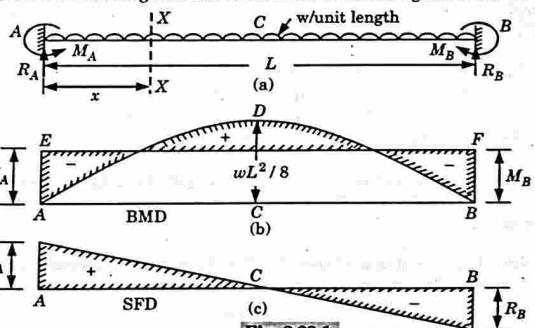

Fig. 2.23.1.
Que 2.23. Draw the SFD and BMD for shown in Fig. 2.23.1(a). Also give the position of contraflexure point from end A.
Given : Fig. 2.23.1(a) shows a fixed beam of length L, intensity of UDL = w , length of UDL = L.
1. Since the loading on the beam is symmetrical, hence $M_A = M_B$. The BM diagram due to end moments will be a rectangle as shown in Fig. 2.23.1(b) by AEFB. The magnitude M_A or M_B is unknown.
3. The BM diagram for this case is shown in Fig. 2.23.1(b) by parabola ADB in which $CD = wL^2/8$.
5. Now the B.M. diagram can be drawn as shown in Fig. 2.23.1(b).
Now the SF diagram can be drawn as shown in Fig. 2.23.1(c).